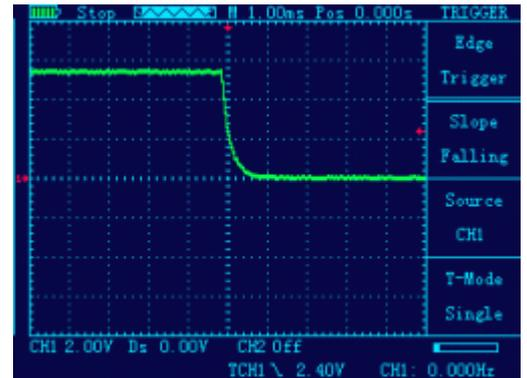

Figure 3-4
- ① Press "CH1 key" → press "F3" key to set the coupling to "DC."
- ② Press the "TRIG" button to display the edge trigger menu settings.
- ③ In this menu, press "F1" key to set the edge type "slope down", press "F2" key to set the source "CH1", press "F3" key to set the trigger mode to "single".
- ④ Press "RUN" key, the left corner of the display screen will displays "Ready", waiting for the signal meets the trigger condition occurs. If the trigger signal reaches the certain conditions, it will displays on the screen. With this feature you can easily capture the event accidental, such as a suddenly low voltage: press "RUN" key to start the wait when there is a low level occurs, the devices will automatically trigger and the trigger waveform record before and after a period of time off." HORI" key can change the horizontal position of the trigger position, then you can get different lengths, which can easily observe the waveform. See Figure 3-4